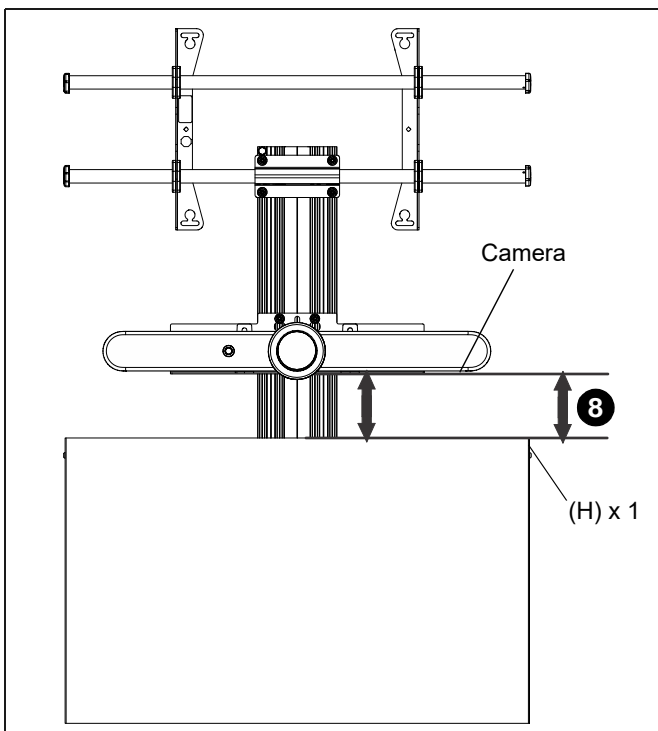

Figure 25
8. Measure the distance between the top edge of the storage box (H) and the lower edge of the camera. (See Figure 25)